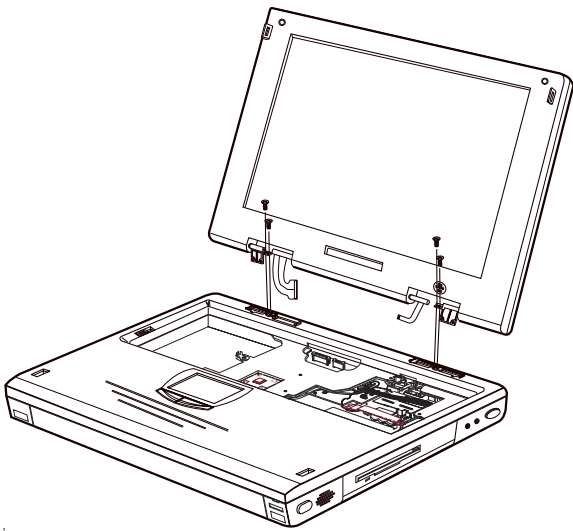

Figure 5-12. Removing LCD Assembly Hinge Screws
12. Remove the four hinge screws at the back of the Keyboard Deck (Figure 5-12).